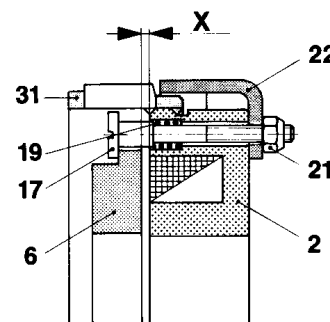

Fig. 4
The restoring bolts (17) limit the stroke of the peak load armature (6) in the direction of the brakes, Fig. 4.
When tightening the restoring bolts, (17) only tighten them using the locking nuts (21) so much that (at least) the adjustment dimension "X" between the peak load armature (6) and the coil carrier remains, acc. to Table 3 and Fig. 4.